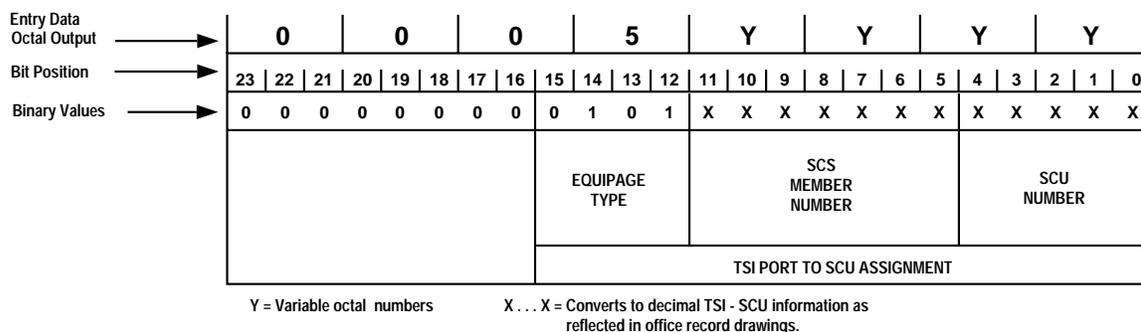

Figure 3. Format of Words Used to Verify TSI Port to SCU Assignment
4. Use the TTY output, office records, and Figure 3 to verify TSI Port to growth SCU assignment per the appropriate word(s) listed in Table A. For each of these words, do the following: